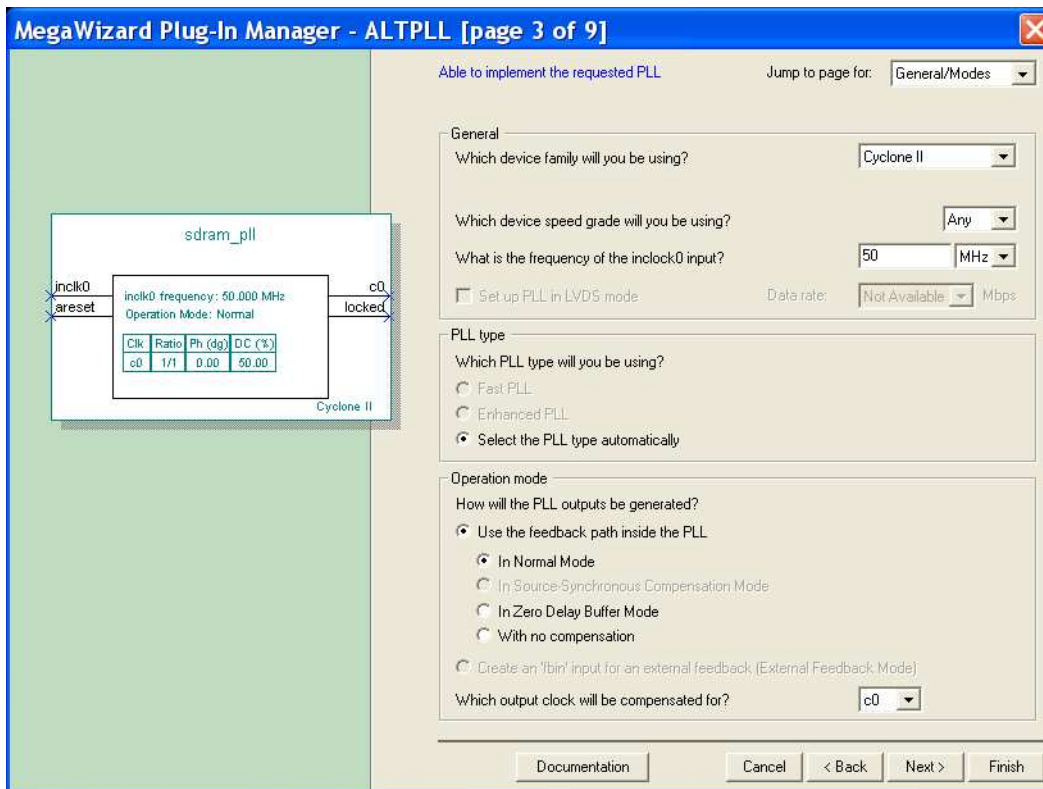
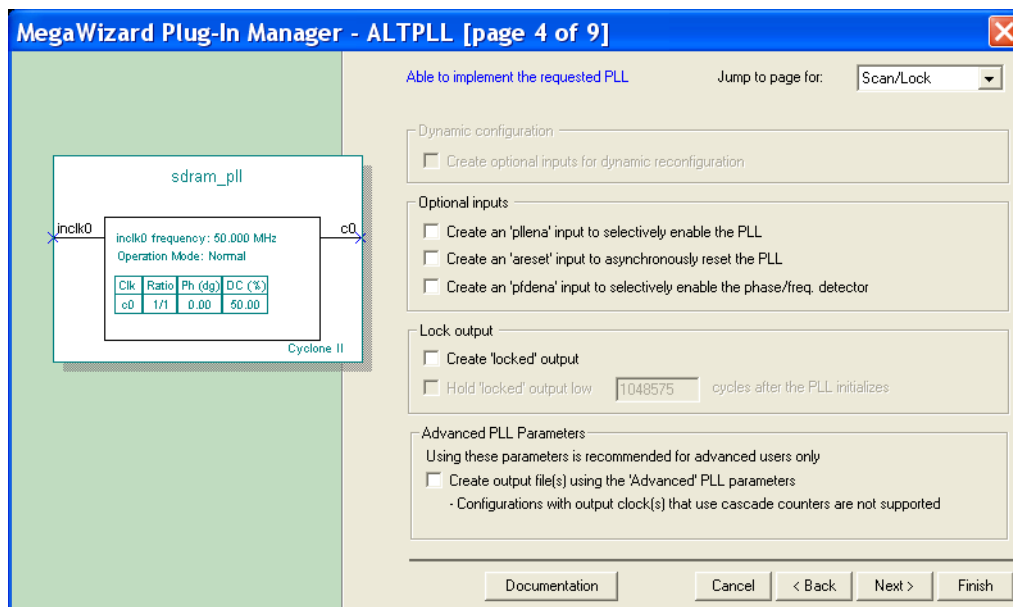

Figure 12. Define the clock frequency.
Figure 13. Remove unnecessary signals.
- In Figure 12, specify that the frequency of the *inclk0* input is 50 MHz. Leave the other parameters as given by default. Click Next to reach the window in Figure 13.